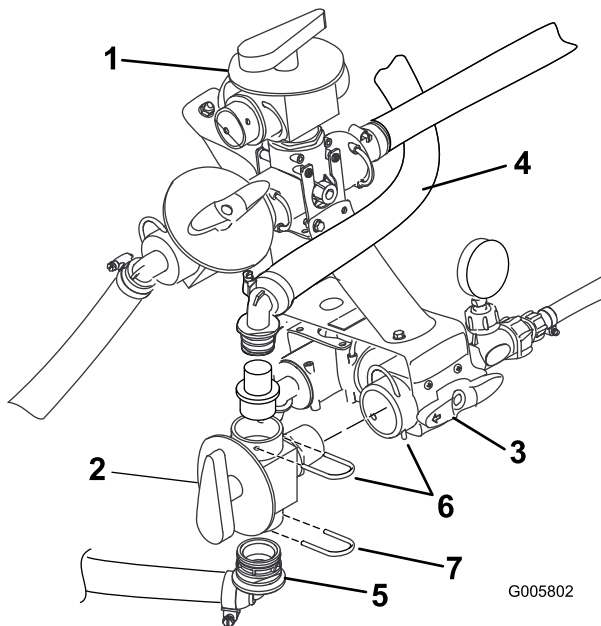

Figure 25
5. Install the rinse nozzle valve in the orientation shown in Figure 25 for machines with a spray gun attachments installed.